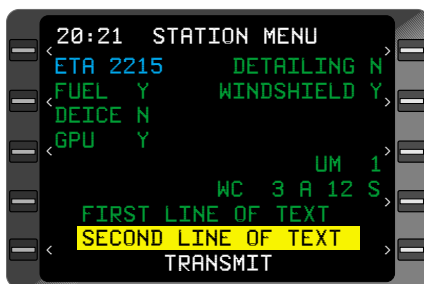

Figure 8-37
24. **ENTER** Key - DEPRESS. If the field is blank, the cursor will move to **TRANSMIT**. If there is text in the first line, the cursor will move to the second line of free text. See Figure 8-37.